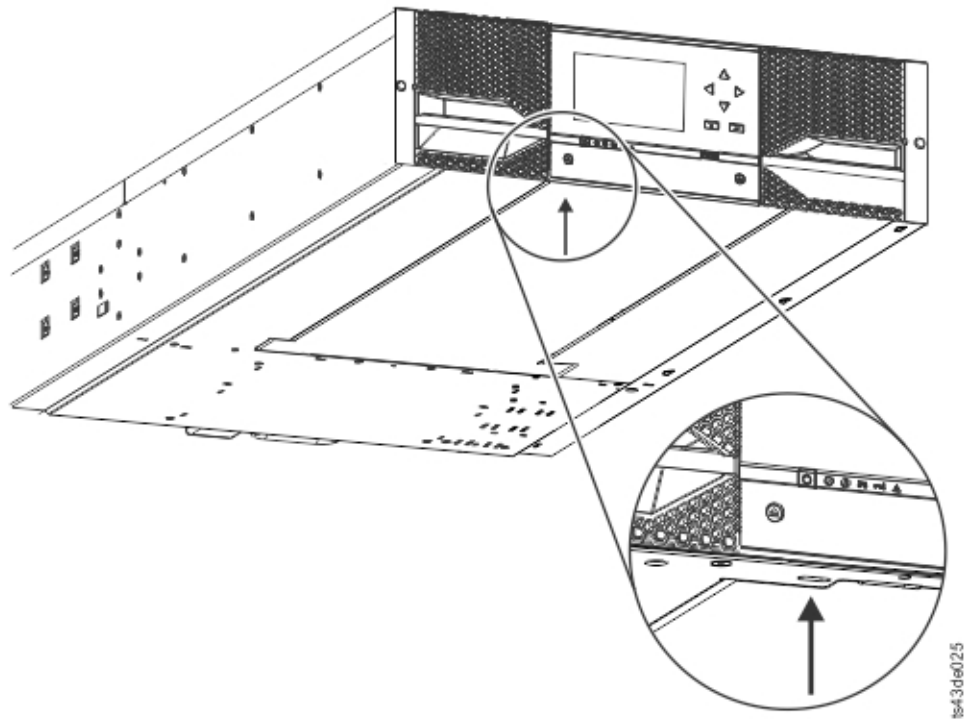

Figure 32. Unlocking the spring loaded lock
- c. Support the bottom cover with one hand. Insert a small flathead screwdriver or Torx screwdriver into the hole and slide about 4 mm sideways to the left to unlock the spring loaded lock. See Figure 32 on page 42.